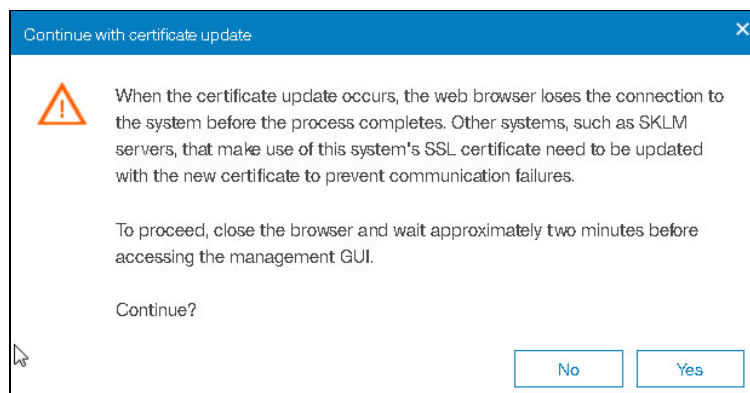

Figure 7-80 Certificate update warning
4. You are prompted to confirm the action, as shown in Figure 7-80. Click **Yes** to proceed. The self-signed is generated immediately.